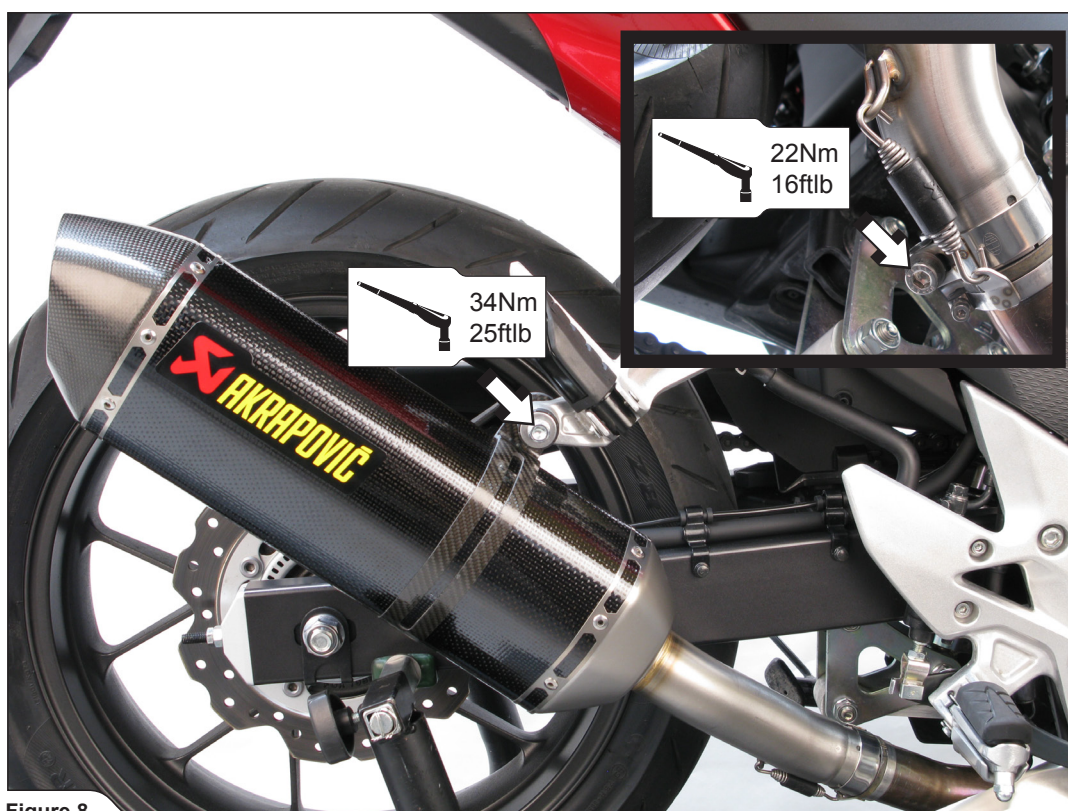

Figure 8
6. **For carbon muffler only:** align the muffler in respect to the motorcycle and tighten muffler clamp bolt and the metal clamp at the Akrapovič muffler/stock header pipe joint to a specified torques (**Figure 8**).